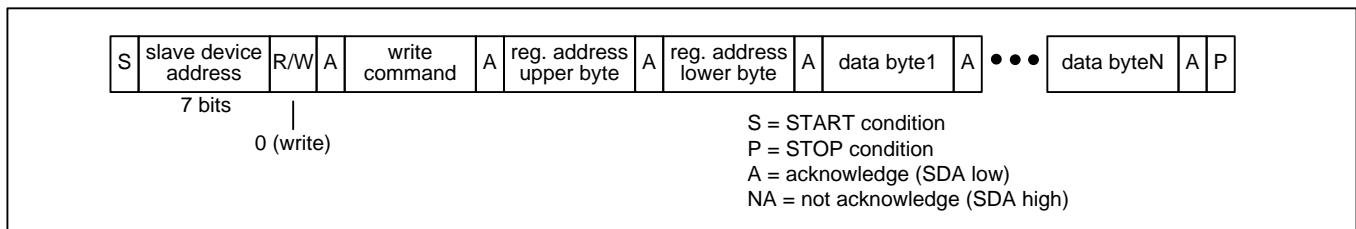

Figure 11 – I²C Register Write Transaction Functional Timing
Register Write Transactions. The device registers are accessible when `EESEL=0`. The bus master does an I²C write to the device. The first three bytes of this transaction are the SPI Write command (see Table 3), the upper byte of the register address, and the lower byte of the register address. Subsequent bytes are data bytes to be written. After each data byte is received, the device writes the byte to the write address and then increments the write address. The bus master terminates the write with a STOP condition (P). See Figure 11.